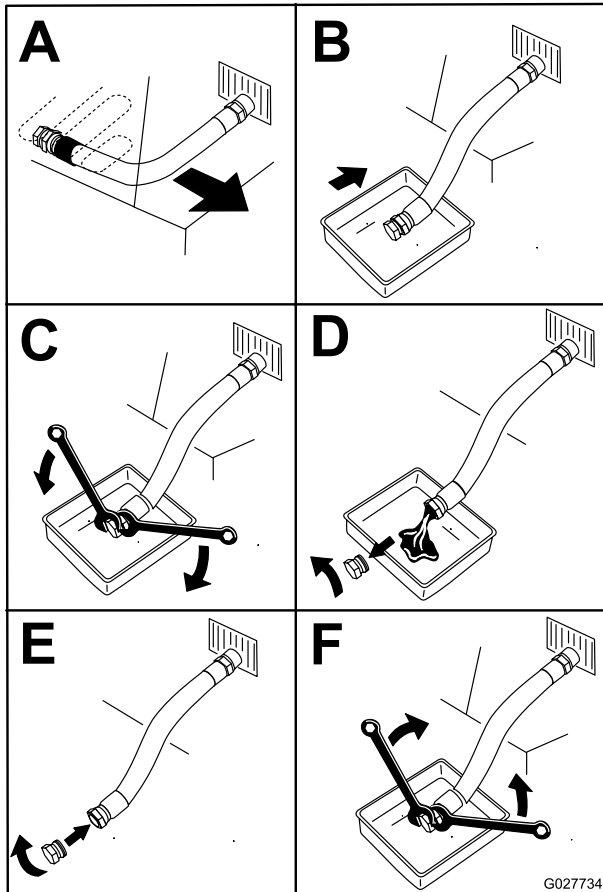

Figure 54
4. Stop the engine, remove the key, and wait for all moving parts to stop before leaving the operating position (Figure 54).